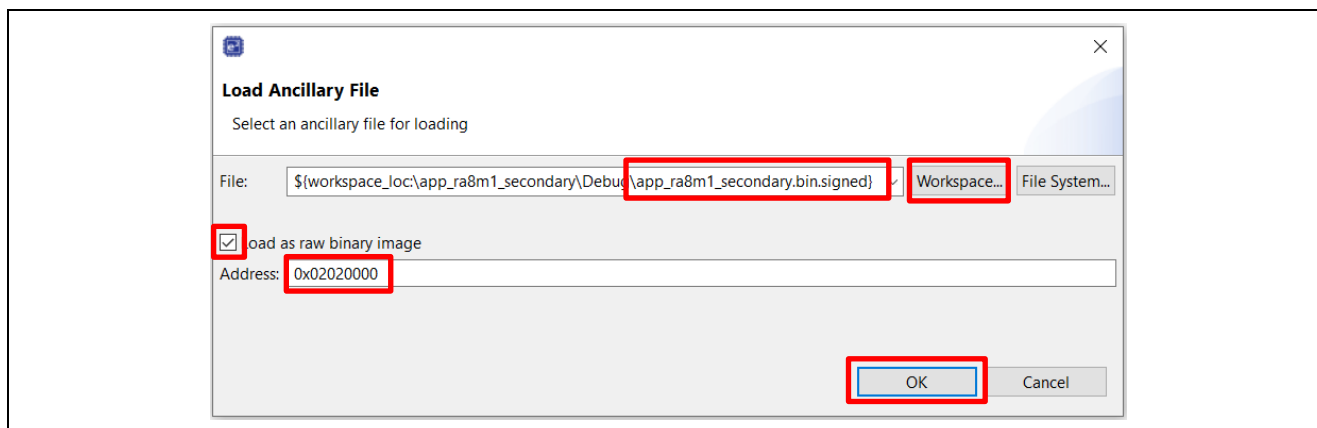

Figure 37. Load the Secondary Application Image for Overwrite Mode
2. Load the new application images to the Secondary slot region using the Ancillary loading capability  from the top of the e² studio toolbar in a similar way as Figure 37. Select **Load as raw binary image** and configure the **Address** to 0x02020000.